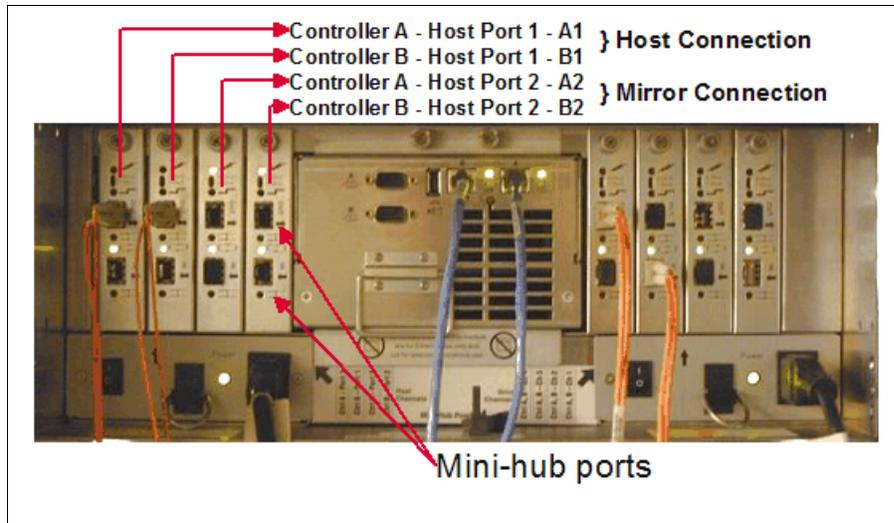

Figure 8-10 Host mini-hubs for host and ERM connections on DS4400/DS4500
- ▶ On the DS4400 and DS 4500 storage servers, you will need four mini-hubs on the host side (two for the ERM, two for the hosts) to set up a connection for ERM on the third and fourth mini-hubs (see Figure 8-10 for the host-side port locations).